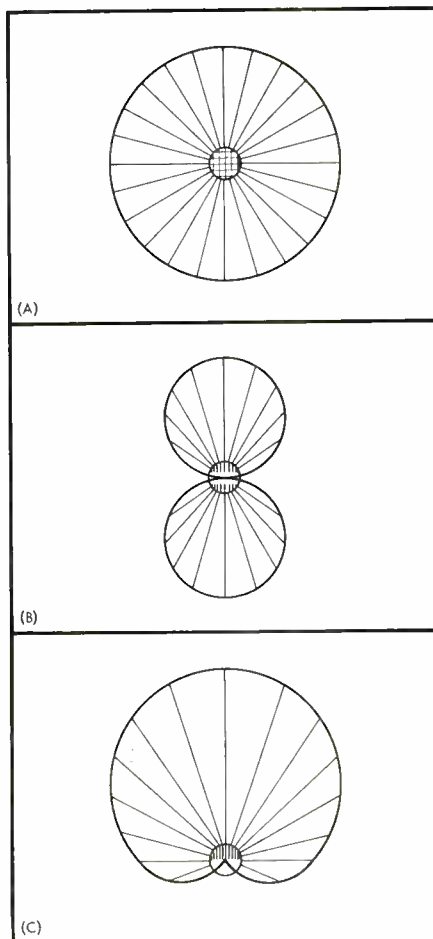

Fig. 6-1. Basic directivity patterns for microphones: (A) omnidirectional; (B) bidirectional; (C) unidirectional or cardioid.
Among the simpler microphone designs there are three types of directivity: (1) omnidirectional, which means it picks up uniformly well in all directions; (2) bidirectional, which means there are two directions of concentrated pickup; and (3) unidirectional, a single direction of concentrated pickup (*Fig. 6-1*). Note that the usable area in front of a unidirectional type is wider than that in front of the bidirectional.
In addition to the more common directivity patterns (*Fig. 6-1*), there are some specially-developed microphones with exaggerated unidirectional pickup patterns. They are more bulky than standard types, but this is no disadvantage, because of their enormously greater range, enabling them to be placed out of sight. One very important thing about them: they must not be obstructed in any way.